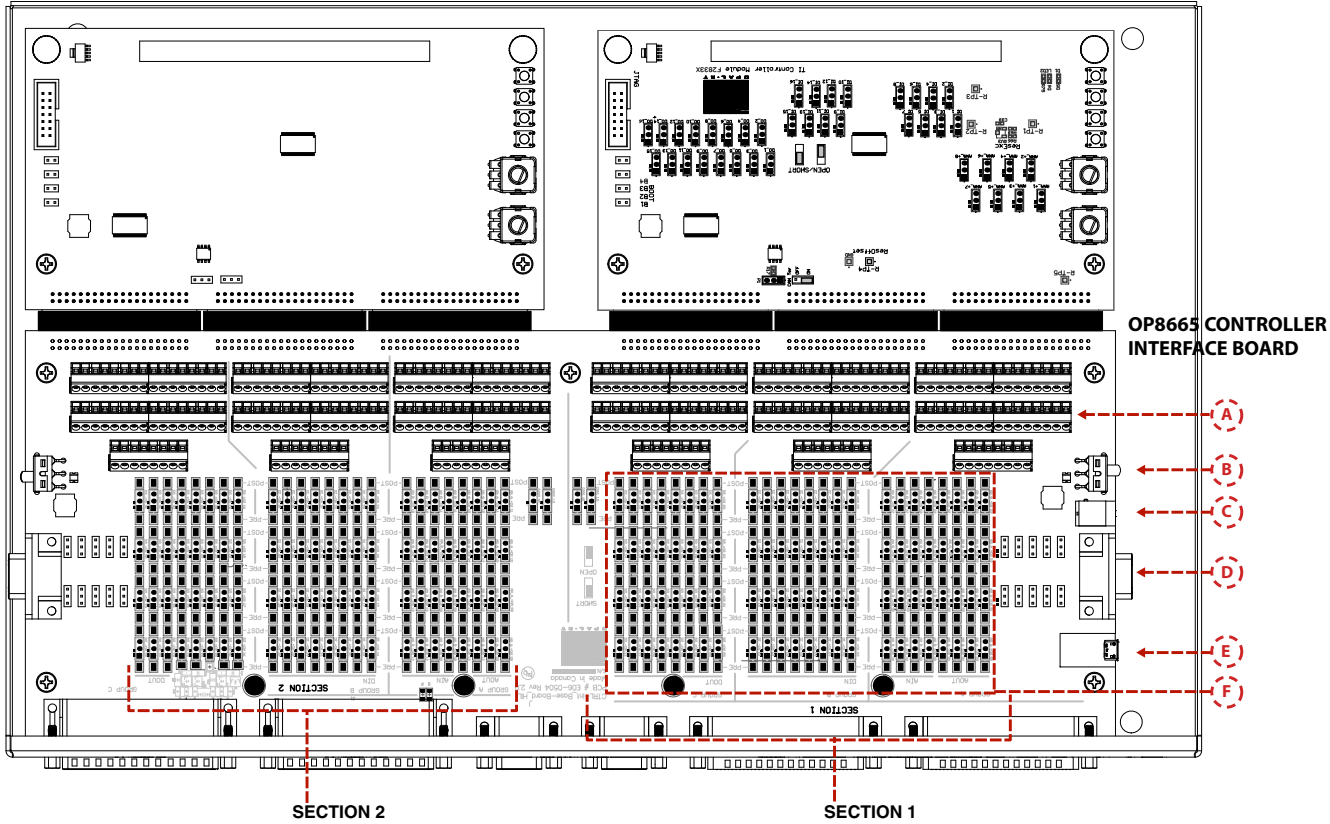

Figure 2: OP8665 with controller interface and two controller boards
5. Connect one end of the USB cable provided (Type A) to a free USB port on the PC being used. Connect the other end (mini-A) to J1 connector on the JTAG Emulator. DS1 indicator will turn on. See Figure 2